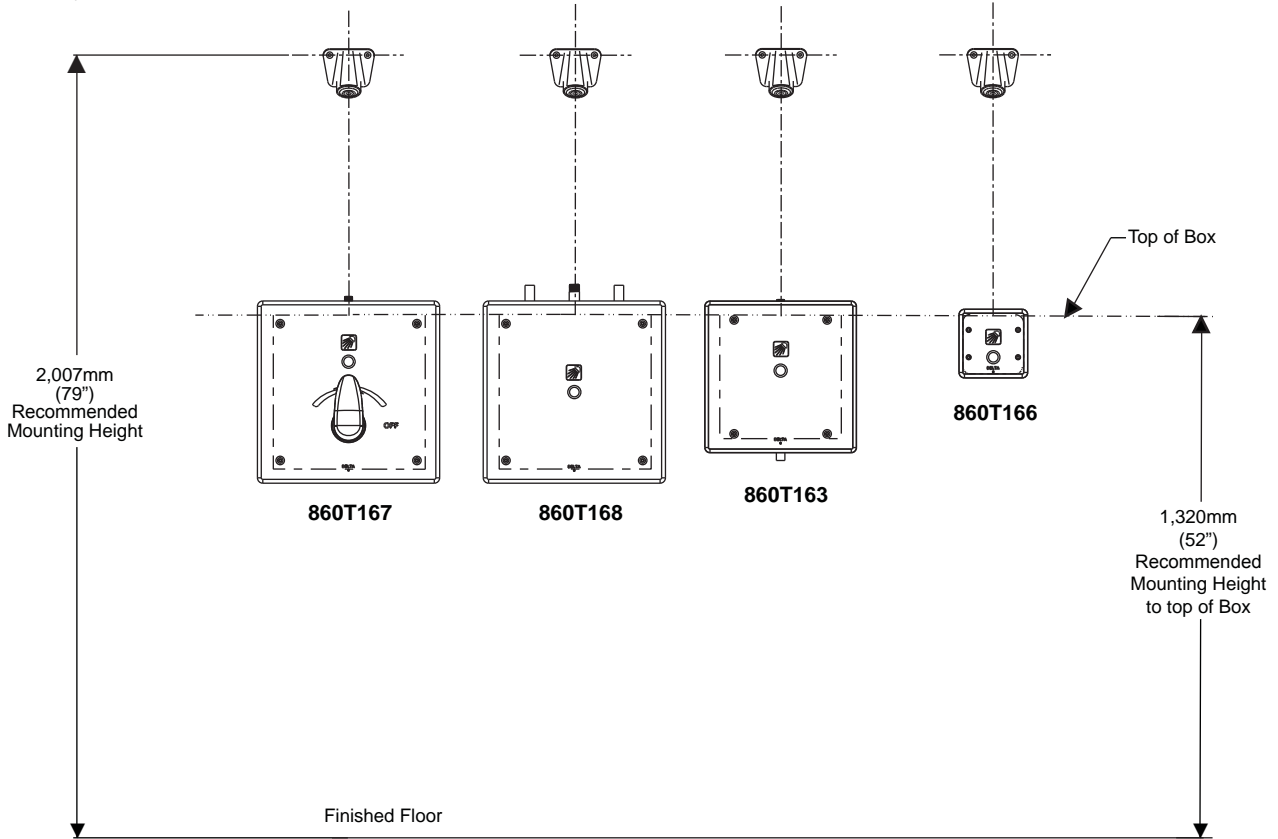

Fig. 4
- Rough in box as per Fig.3. Use Figures 4, 5, 6 and 7 for specific box information.
- Connect piping from supply to valves as per applicable Figure 4, 5, 6 or 7 and for shower head (Fig. 2).